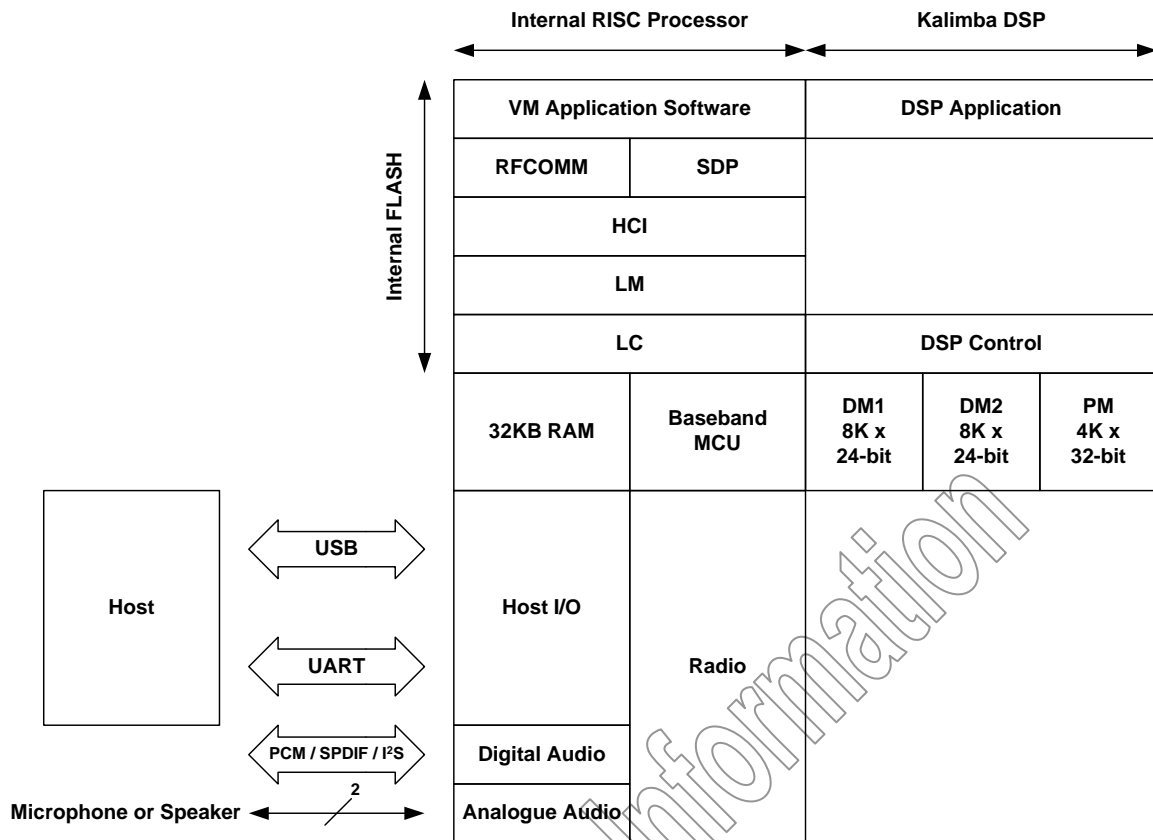

Figure 7.2: Kalimba DSP Stack
In Figure 7.2, this version of the stack firmware shown requires no host processor (but can use a host processor for debugging etc.). All software layers, including application software, run on the internal RISC processor in a protected user software execution environment known as a Virtual Machine (VM).